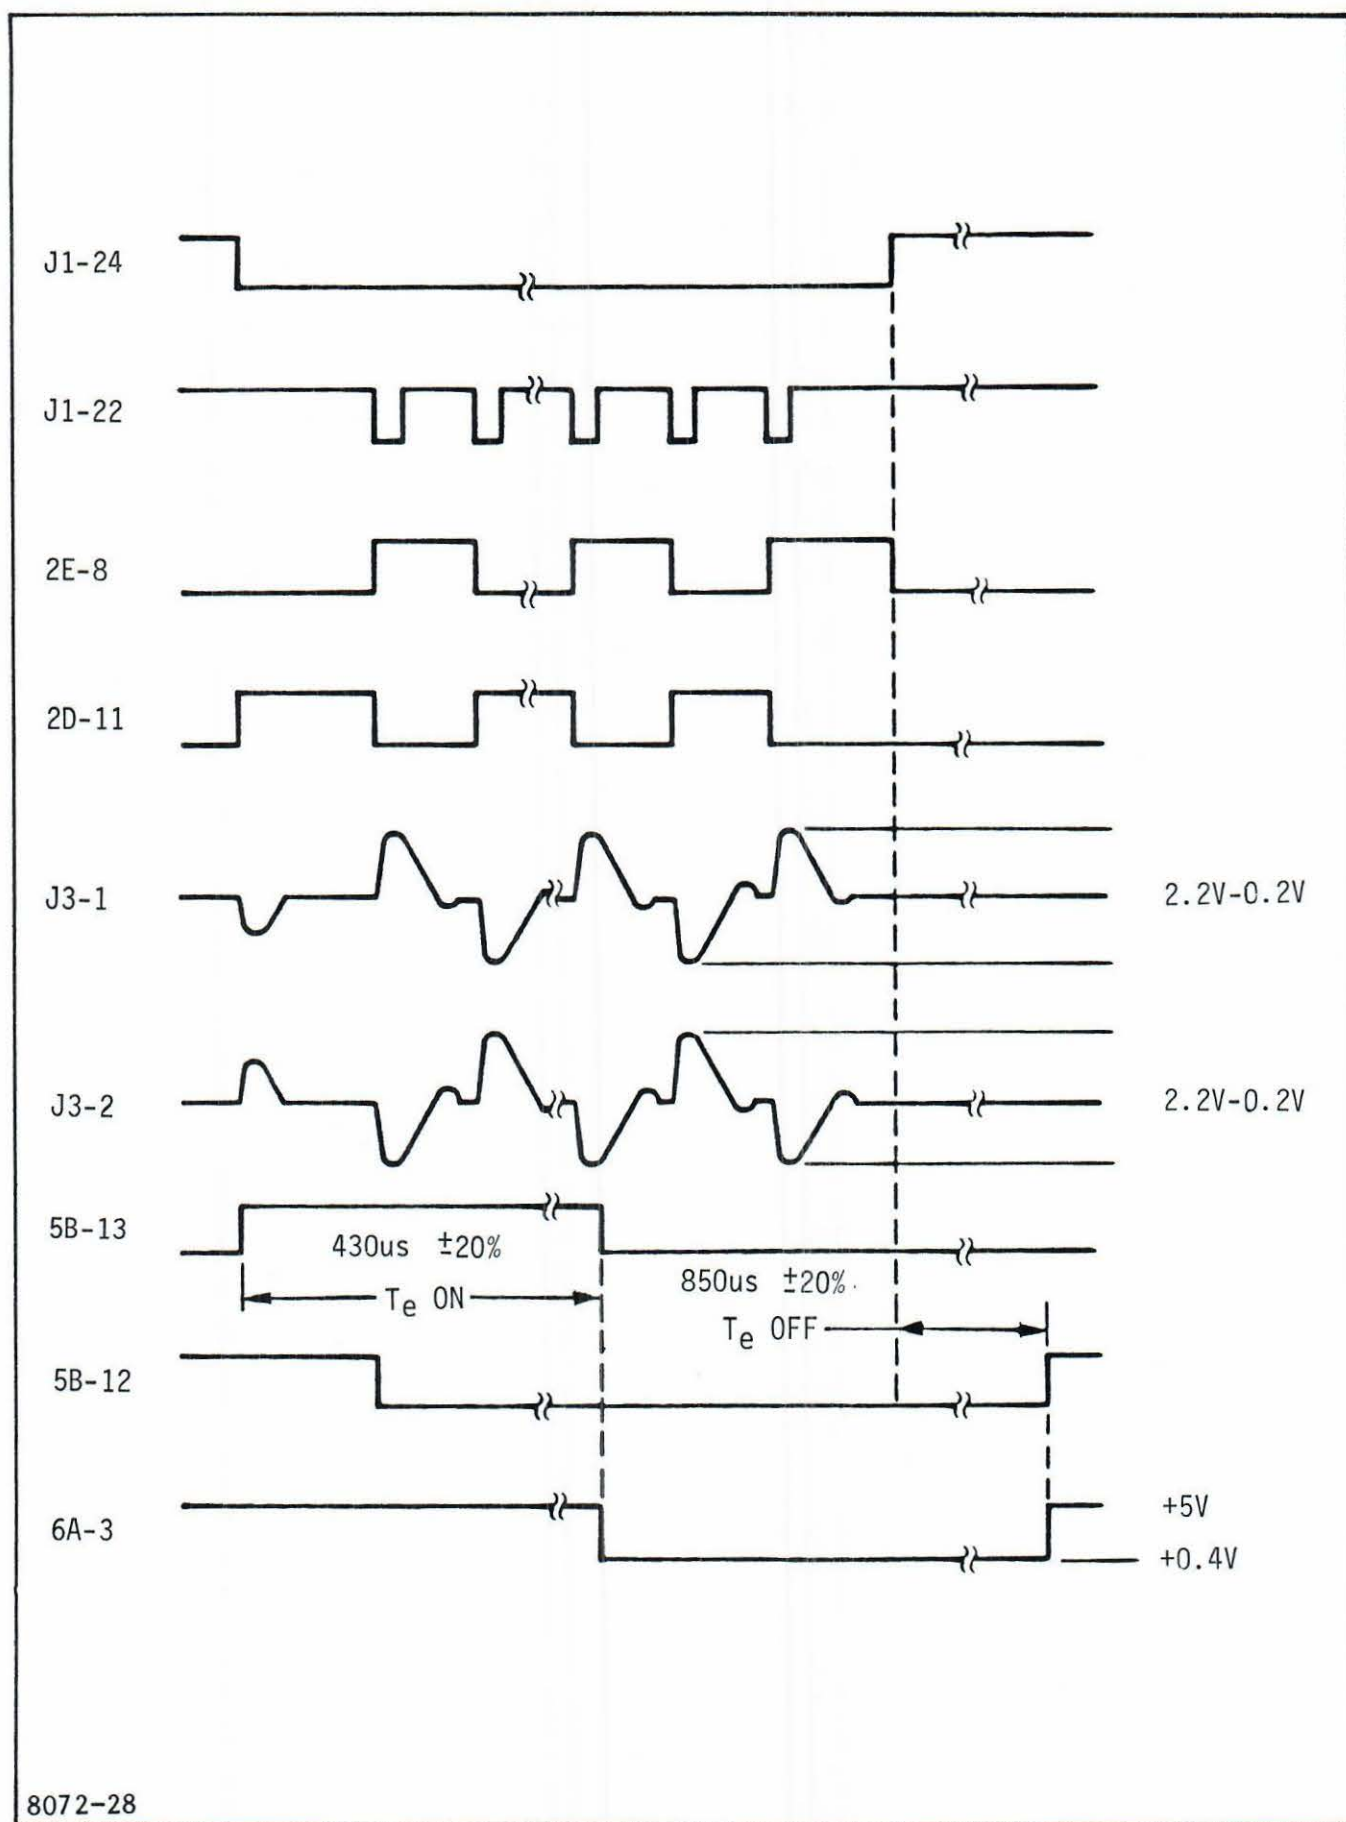

Figure 4-10. Write Timing
3. Check read logic for proper signals as compared with timing diagram, figure 4-10.